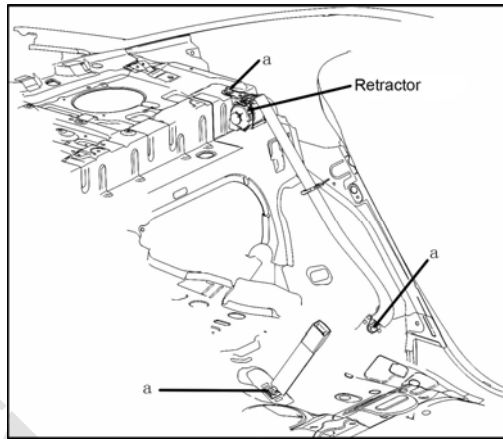

Fig. 7-4
1. Removal, as shown in Fig. 7-4.